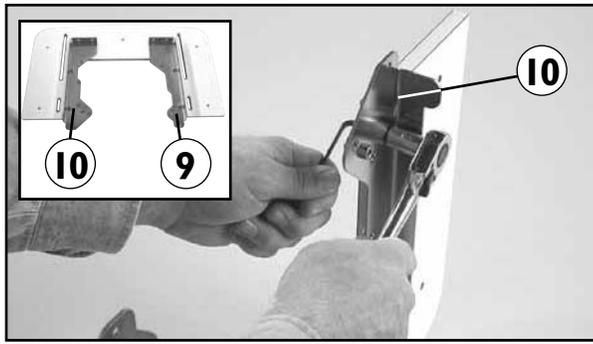

Fig. 7
7. Attach insert brackets (9 and 10) to routertop using four 1/4-20 x 1 1/4" flat head socket cap screws (18) and nylon nuts (26). Position insert brackets as shown in **Fig 7**. Be sure to mount the brackets to the underside of the routertop (**Fig 7 inset**). The routertop surface has countersinks, the underside does not. Do not fully tighten the bolts.